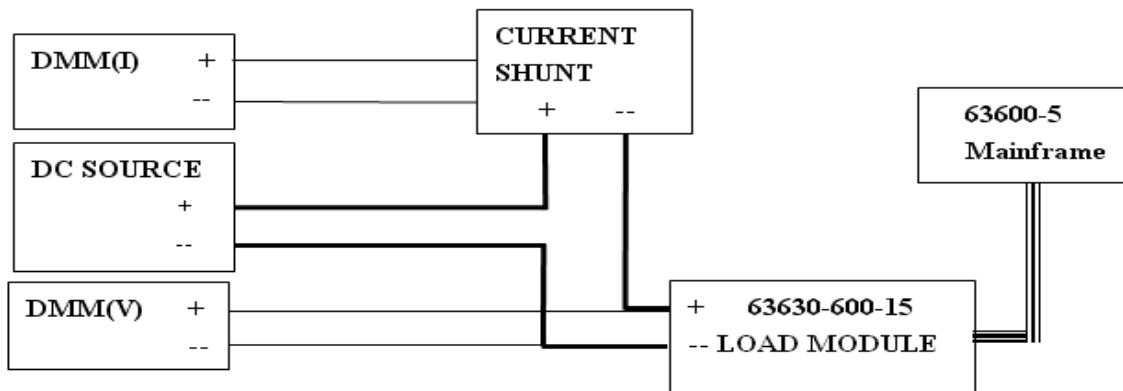

Figure 7-1
- A. Connect the Load module, DC source, DMM, and current shunt, as shown in Figure 7-1. Use DMM (V) to measure the voltage passing through the module's input terminal. Be careful in making connections so that contact resistance voltage drop will not affect the readings.
- A. Connect the load module, DC Source, DMM, and Current Shunt, as shown in Figure 7-1. Use DMM (W) to measure the voltage passing through the module's input terminal. Be careful in making connections so that contact resistance voltage drop will not affect the readings.
1.6W	40V/0.5A	3.5248W	0W	DMM (W)± 0.6416W
- Connect the load module, DC Source, DMM, and Current Shunt, as shown in Figure 7-1. Use the DMM (W) to measure the voltage passing through the module's input terminal. Be careful in making connections so that any contact resistance voltage drop will not affect the readings.